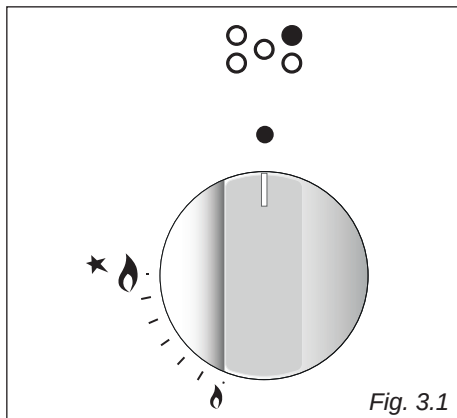
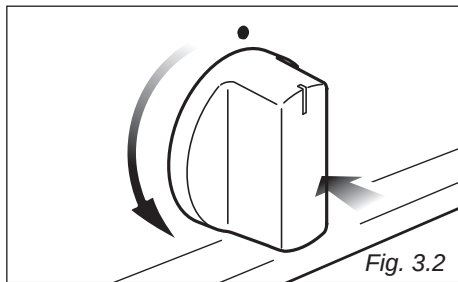

Fig. 3.1
Fig. 3.2
- Remove the screw securing the cover "A" on the rear of the cooker (fig. 3.2).
Gas flow to the burners is adjusted by turning the knobs (illustrated in fig. 3.1) which control the safety valves.
1. Press in the corresponding knob and turn counter-clockwise (fig. 3.2) to the full flame position marked by the  symbol (fig. 3.1); hold the knob in until the flame has been lit. In the case of a mains failure light the burner with a match or lighted taper.